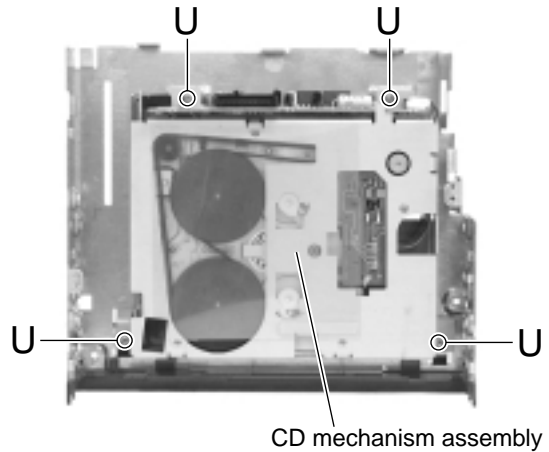

Fig.22
**■ Removing the cassette mechanism assembly (See Fig.22)**